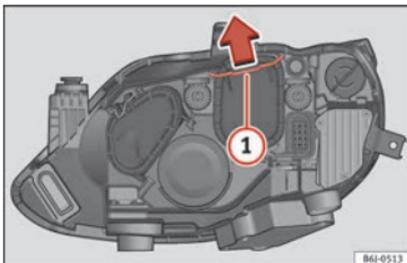

Fig. 96 Double headlight.
- Move the loop »» Fig. 96 ① in the direction of the arrow and remove the cover.